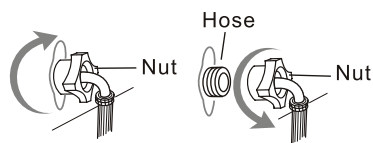
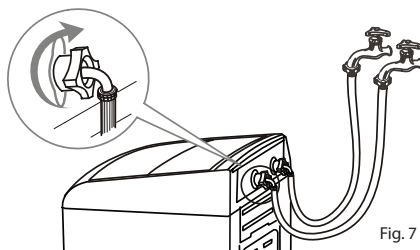

Fig. 6
Fig. 7
- Tighten the coupling nuts securely by hand, as illustrated on the right and below (Fig. 6 and Fig. 7).